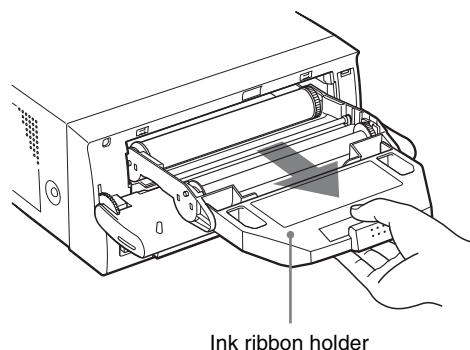

Figure 3.3
- 2 Take out the ink ribbon holder (see Figure 3.3).